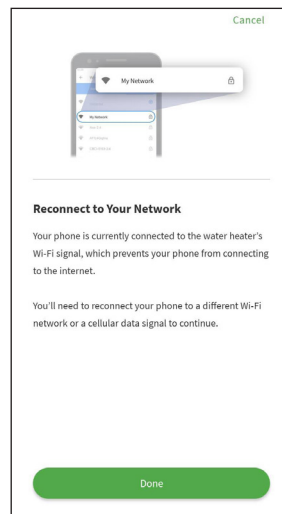

Figure 156 - Reconnect to Wi-Fi
- 5 The app will prompt you to disconnect from the iCOMM network, and connect to your preferred local Wi-Fi network (Figure 156). Open the Wi-Fi settings menu on your device, search for you preferred Wi-Fi network, and connect. Return to the app and select “Done” at the bottom of the screen.